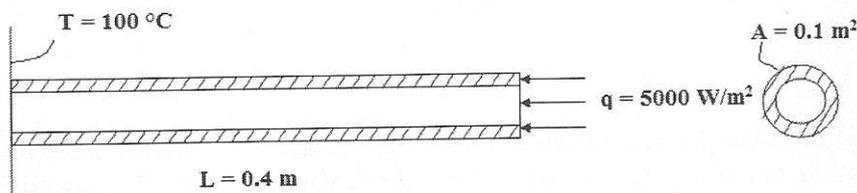

Figure 7
- Q. 7 The fin shown in Figure 7 is insulated on the perimeter. The left end has a constant temperature of 100°C . A positive heat flux of $q = 5000\text{W}/\text{m}^2$. Acts on the right end. Let $K_{xx} = 6\text{W}/(\text{m}^{\circ}\text{C})$ and cross sectional area $A = 0.1\text{m}^2$. Determine the temperatures at $L/4$, $L/2$, $3L/4$, and L where $L = 0.4\text{m}$. 16